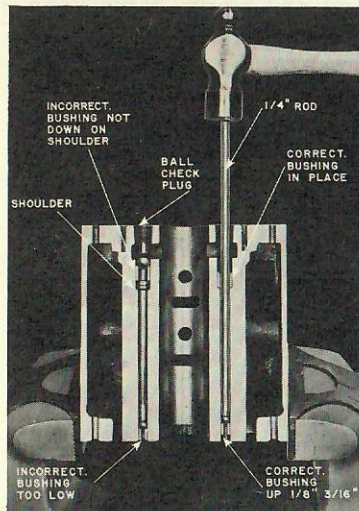

FIG. 19-1
6. Place 1/4" rod on top of each ball and tap ball into the soft metal seat. Fig. 19-1.
10. Inspect check valve bushings at pump bore to be certain bushings are not restricting oil flow. See Fig. 19-1. If bushing is too low drive it back up.